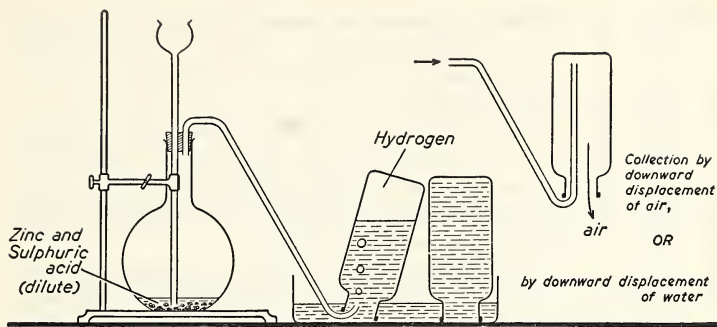

Fig. 34. The laboratory preparation and collection of hydrogen.
1. Set up the apparatus as shown in Figure 34, and place a handful of mossy zinc in the flask. Add dilute sulphuric acid through the thistle-tube until the zinc is well covered, making sure that the lower end of the thistle-tube is covered by the acid.